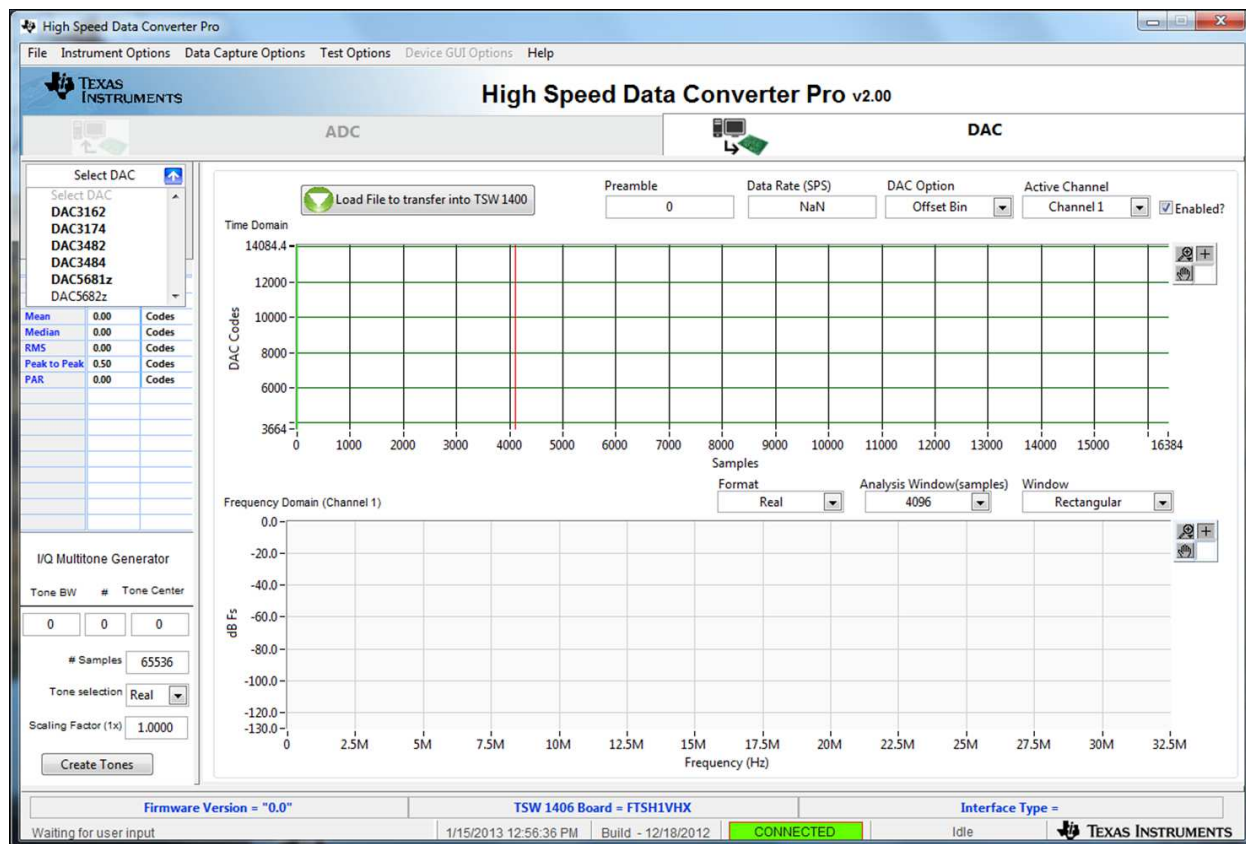

Figure 5. Selecting Device Firmware
- In the *Select DAC* box, select *DAC3162*, as shown in Figure 5